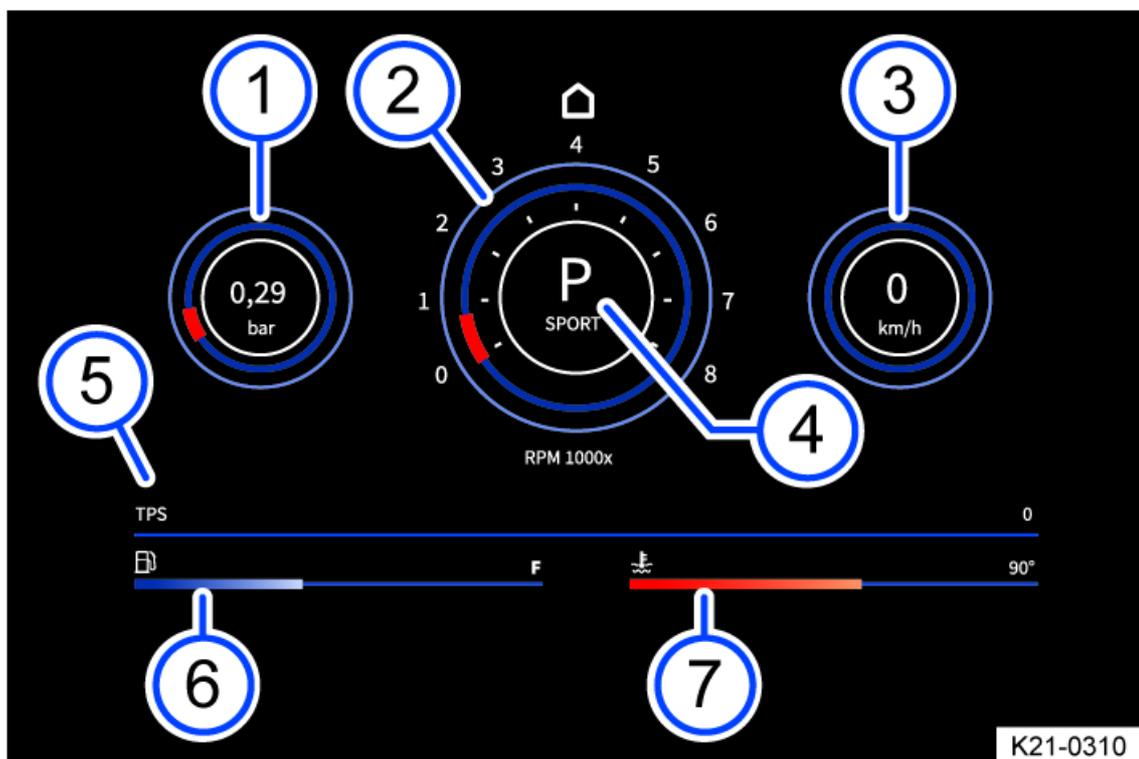

Fig. 19 On the Infotainment system screen: performance monitor.
- **Boost pressure indicator:** the boost pressure indicator *fig. 19* (left) displays the boost pressure between the turbocharger and the engine in bar. The fuller the bar on the display, the more engine power is being used.
- **Tachometer:** The tachometer *fig. 19* specifies the engine revolutions per minute.
- **Speed display:** The speed display *fig. 19* shows the speed currently being driven at in km/h.
- **Gear indicator:** the gear indicator *fig. 19* shows the currently engaged gear or the selector lever position.
- **TPS display:** The TPS display *fig. 19* shows the throttle position. The horizontal bar moves right when the accelerator
- **Fuel gage:** This display fig. 19 is synonymous with the fuel display on the Volkswagen Digital Cockpit. If the vehicle is consuming fuel, the horizontal bar moves left.
- **Coolant temperature gage:** This display fig. 19 is synonymous with the temperature display on the Volkswagen Digital Cockpit. If the engine is exposed to excessive load or high outside temperatures, the horizontal bar moves right. This is not a cause for concern as long as the  indicator light in the instrument cluster display is off or blinking.